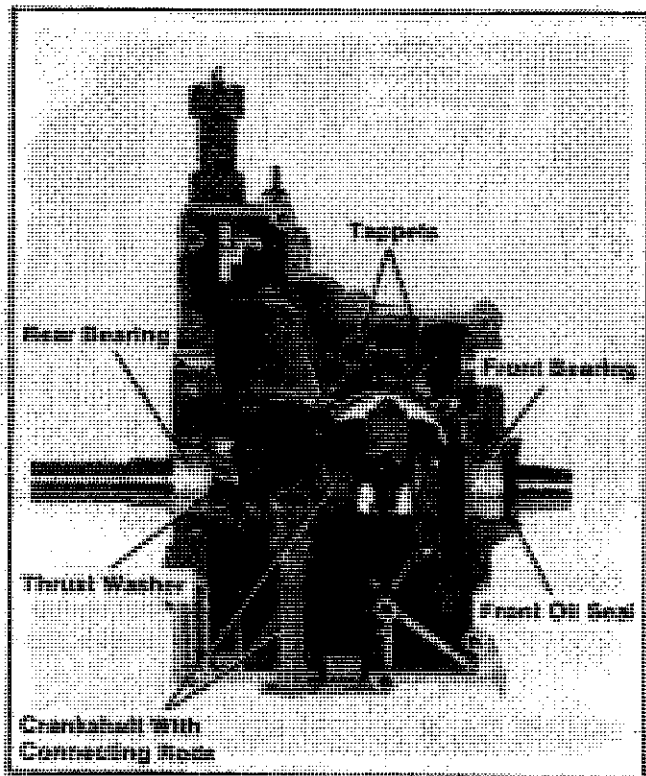

Figure 9-34. Removing Tappets, Crankshaft, Front Oil Seal, And Bearings
2. With a marking pen or paint, mark the tappets according to crankcase side and as either intake or exhaust. Remove tappets from both crankcase sides. Refer to Figure 9-34.
1. Remove the crankshaft with connecting rods, bearings, and front oil seal from the #1 crankcase side. Refer to Figure 9-34.